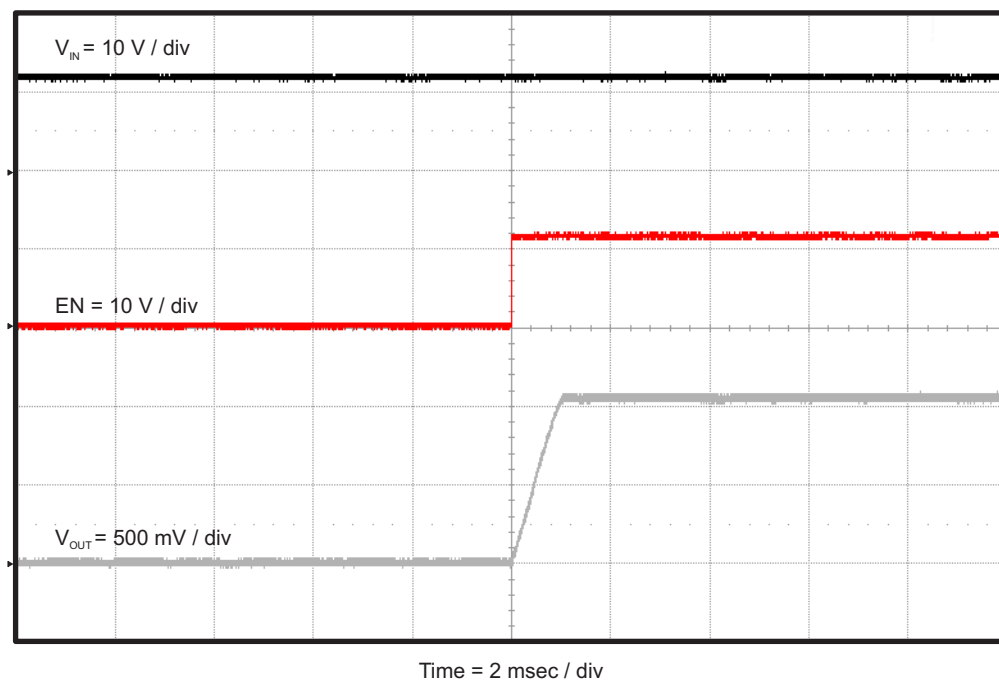

Figure 9. TPS562209EVM-601 Start-Up Relative to EN
The TPS562209EVM-601 start-up waveform relative to enable (EN) is shown in Figure 9. Load = 1 Ω resistive.